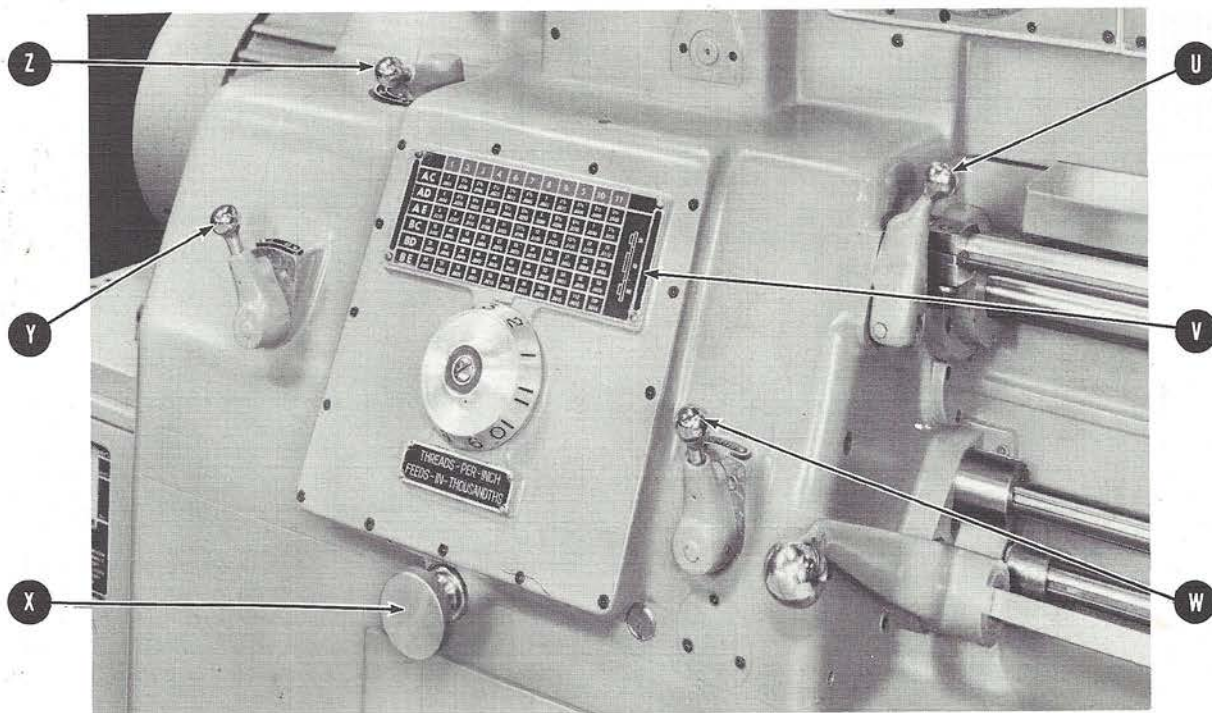

FIGURE 4 GEAR BOX CONTROL LEVERS
Large, easily read index plate (V) Figure 4 shows the wide range of threads and feeds obtainable by moving levers (Y) and (Z) in conjunction with knob (X). To set for a particular thread or feed, move tumbler lever (U) to the right and down. Turn knob (X) until number opposite index mark corresponds to number at top of column on index plate which contains the feed or thread desired. Lift and lock lever (U). Set levers (Y) and (Z) according to plate.